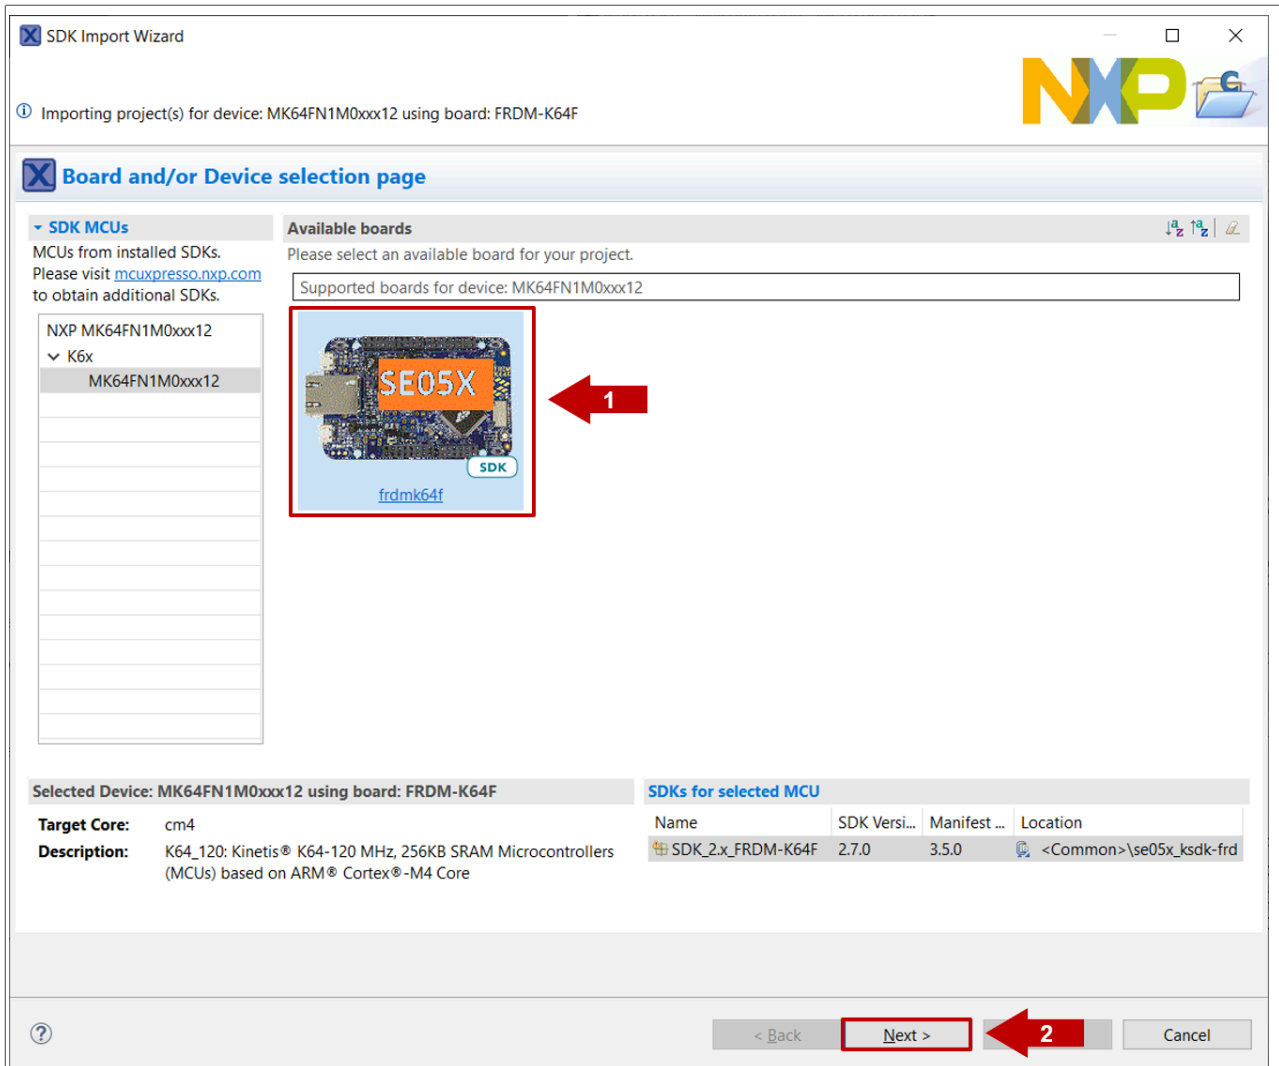

Figure 28. SDK import wizard
2. The SDK import wizard will be opened. You should see a figure of an FRDM-K64F board. Select the board and click the *Next* button as shown in Figure 28: